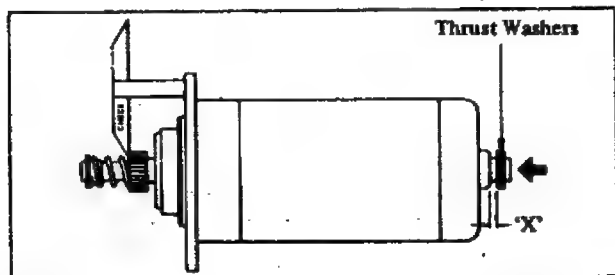

Fig. 73
16. Check that shims (36) have all been removed from the armature shaft, and then replace commutator endshield (15). Fit through bolts (35) and tighten securely, to a torque of 9.5 to 10.2 Nm (0.97 to 1.04 kgf m or 7 to 7.5 lbf ft).
17. Replace thrust washer (33) and circlips (17), but do not fit shims (16).
- (a) Bolt the gauge on to the mounting flange with the arm marked "CHECK" towards the pinion as shown in Fig. 73, then push the armature towards the drive end of the machine until the pinion face just touches the gauge. With the armature held in this position, measure gap 'X' between thrust washers (33) and the commutator end shield, using feeler gauges. Shim washers, having a total thickness equivalent to the measurement taken by the feeler gauges should then be fitted between the thrust washer and circlip. The shim washers must be well greased before use, and are available in two thicknesses 0.20 and 0.10 mm. (0.008 and 0.004 in.). A combination of these sizes giving the closest approximation to the required dimension should be used.